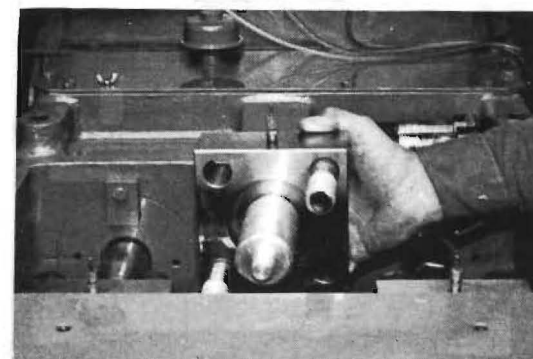

FIGURE 6-7
- B. INSERT THE SPECIAL ROD INTO THE BACK OF THE INNER SLEEVE, SLIDE A CARTRIDGE FLANGE ONTO THE ROD, INSERT TWO OF THE CAP SCREWS INTO OPPOSITE HOLES IN THE FLANGE, AND THREAD THEM INTO THE FRAME PLATE, AS SHOWN IN FIGURE 6-7.